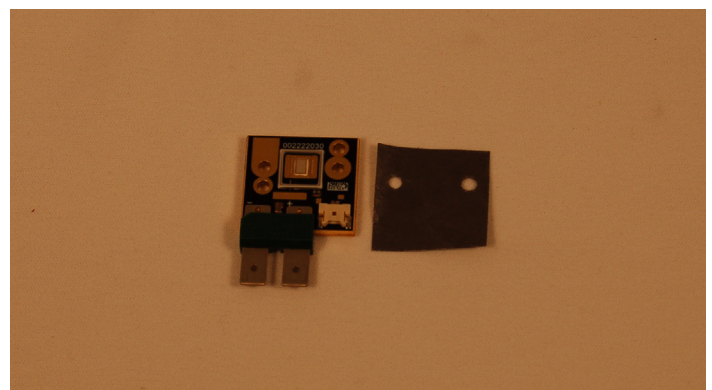

Figure 9: Thermal pad and device
1. Use a thermal pad of an area slightly larger than the area of the core board (Figure 9).